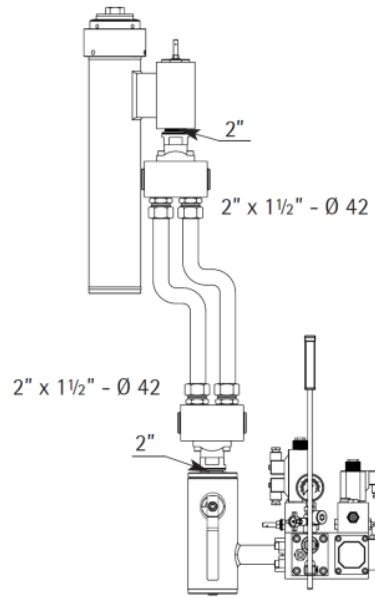

Figure 12 – Connection with two rigid pipes $\varnothing 42$
- With two parallel steel pipes, diameter 42 mm and two three – way fittings 1" fi x 2" x fi (see Figure 12).